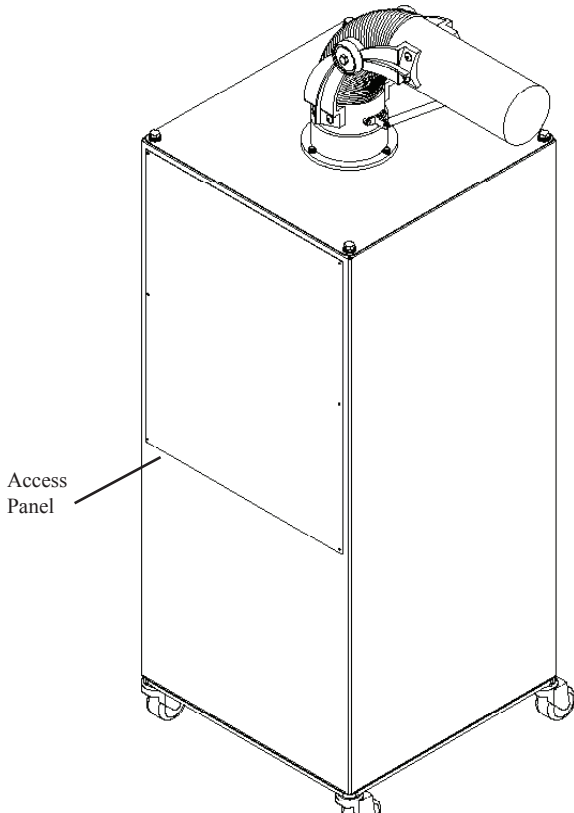

Fig. 3
4. Replace the filter access panel (Fig. 3).